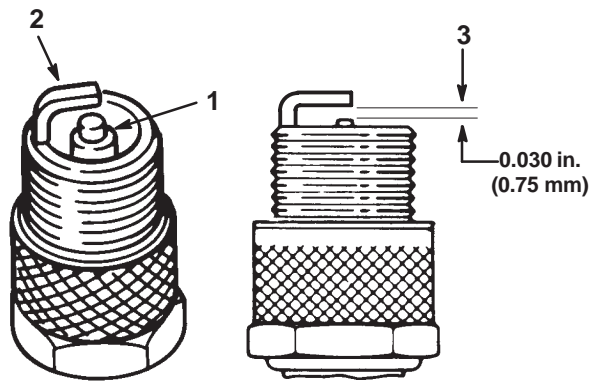

Figure 30
2. Look at the center of the spark plug(s) (Fig. 30). If you see light brown or gray on the insulator, the engine is operating properly. A black coating on the insulator usually means the air cleaner is dirty.
3. Check the gap between the center and side electrodes (Fig. 30). Bend the side electrode (Fig. 30) if the gap is not correct.